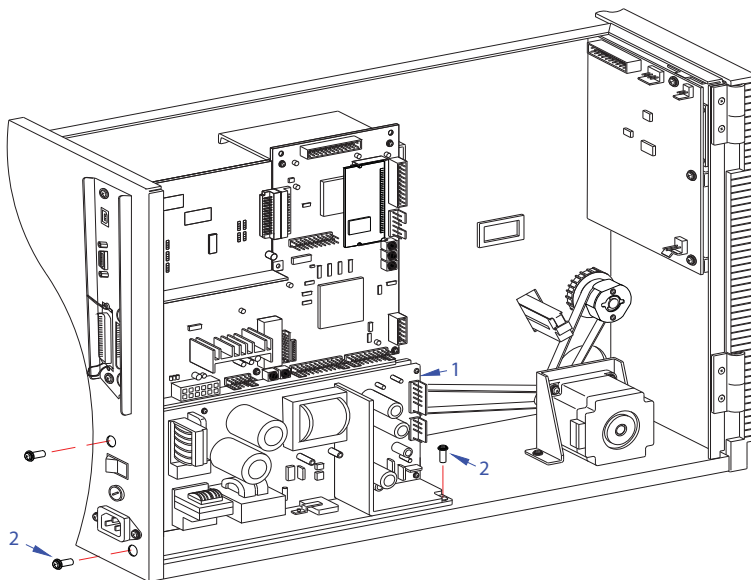

Figure 7-9, Power Board Replacement
- 3 Disconnect all wiring harnesses from defective power board (1, Figure 7-9) from other printer components.
- 4 Remove three screws (2) securing defective power board (1) to the printer.